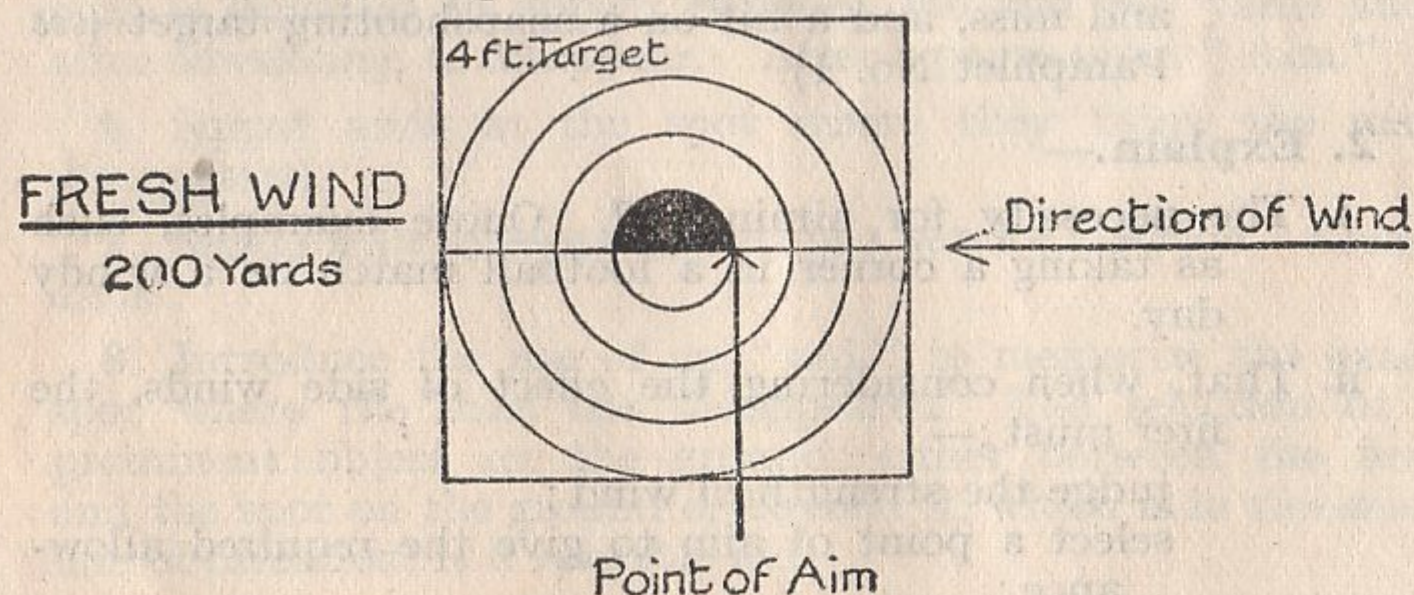

FIG. 4
- ii. Based on a *fresh* wind blowing from the right, the following are examples of the point of aim required at various ranges (see Figs. 4 to 7).